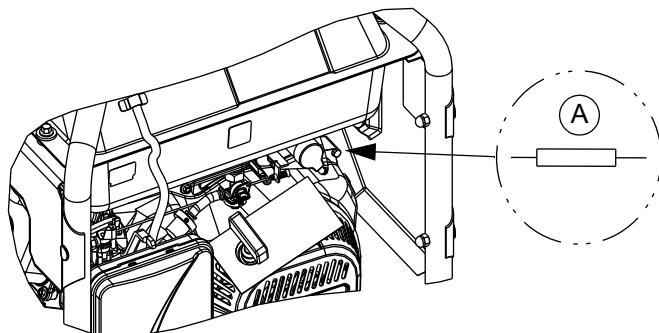

Figure 4-8. Battery Charger Fuse
1. The battery charger fuse (A) is located behind the control panel as shown in Figure 4-8. It is secured with a rubber coated clamp.